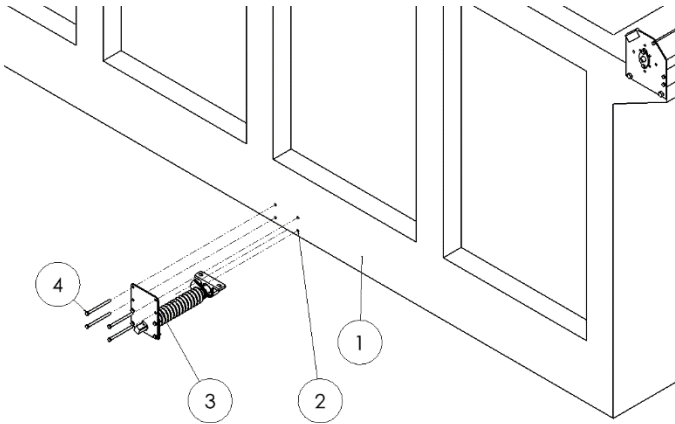

Figure 3.4
Position the spring assembly over the mark for the pivot point and mark the positions of the 4 mounting holes (2). Drill out these holes and secure the spring assembly (3) to the dump box (1) via the 3/8" hex bolts and 3/8" hex nuts (4). (Figure 3.4)